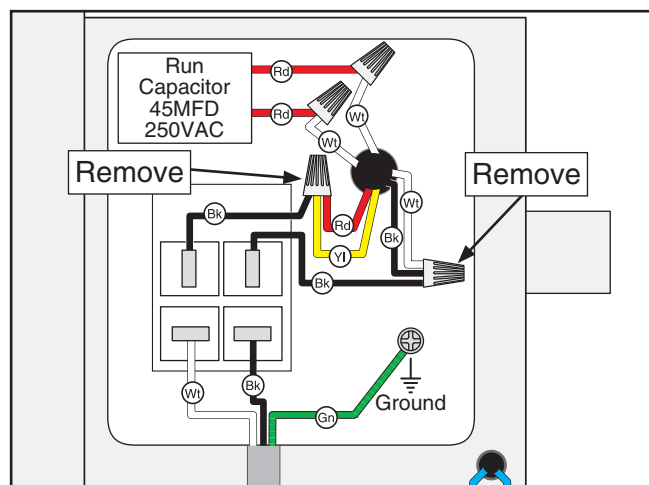

Figure 5. Location of wire nuts to be removed.
3. Open the motor junction box, then remove the wire nuts indicated in **Figure 5**.